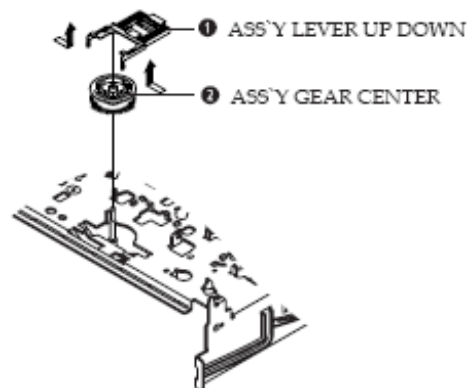

Fig. 3-29 Ass'y Lever Up Down Removal
- 1) Remove the 2 hooks in the direction of arrow as shown Fig. 3-29 and lift the Ass'y Lever Up Down ❶.
- 2) Lift the Ass'y Gear Center ❷.